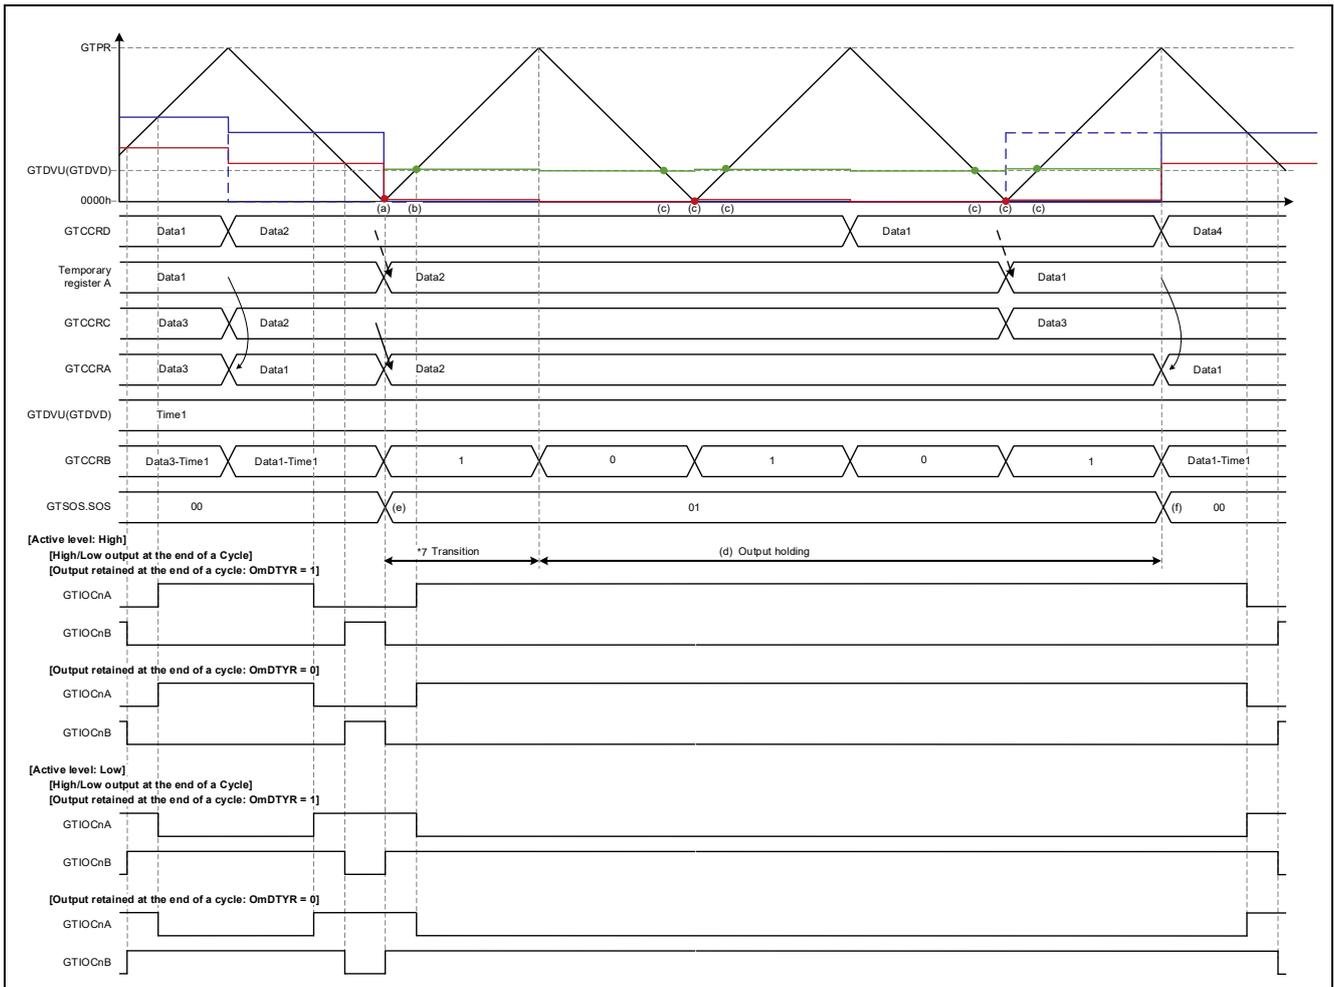

Figure 1.97 Triangle-Wave PWM Mode 3 Operation Example
- Operation Example 7: Figure 1.97 Triangle-Wave PWM Mode 3, Abnormal Value (Transfer at Trough)/Normal Value (Transfer at Crest), caution 7
Figure 1.97 shows an operation example of transfer of 0000 0000h to GTCCRA via buffer transfer at trough and return via buffer transfer at crest of a normal value in triangle-wave PWM mode 3